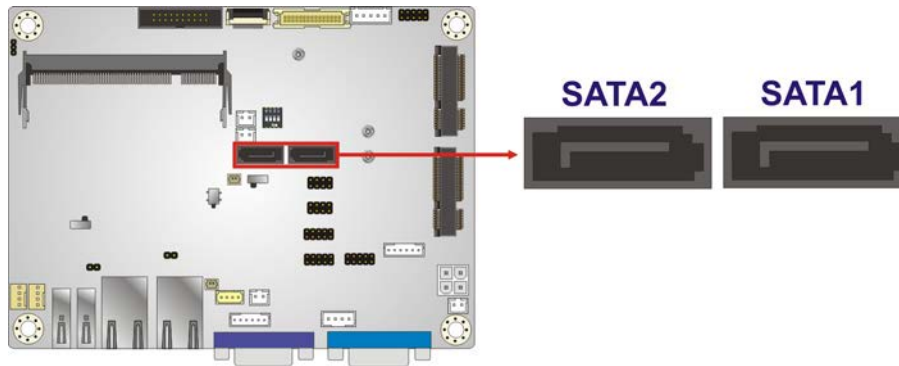

Figure 3-20: SATA 3Gb/s Drive Connectors Locations
- CN Location:** See Figure 3-20